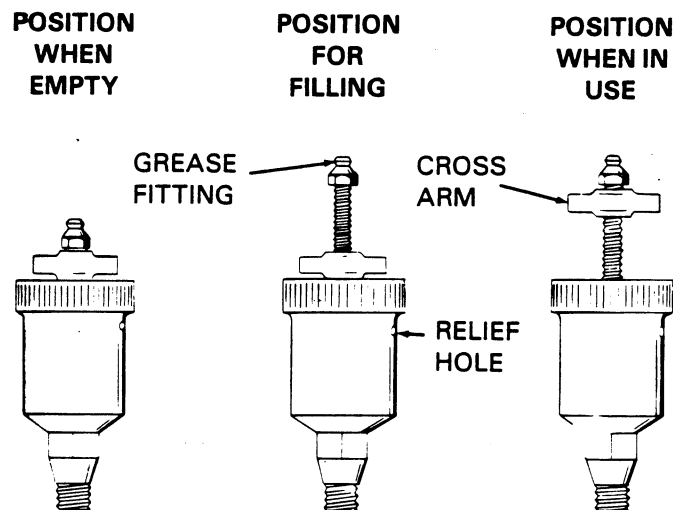

Figure 4. Automatic Lubricating Grease Cup
Before removing the impeller, turn the cross arm on the seal grease cup (12) clockwise until it rest against the cover (see Figure 4, in **LUBRICATION**). This will prevent the grease in the cup from escaping after the impeller is removed.
Fill the grease cup through the grease fitting with a good grade of No. 2 lithium base grease until grease escapes from the relief hole. Turn the grease cup arm counterclockwise until it is at the top of the stem; this will release the spring to apply grease to the seal (see Figure 4).